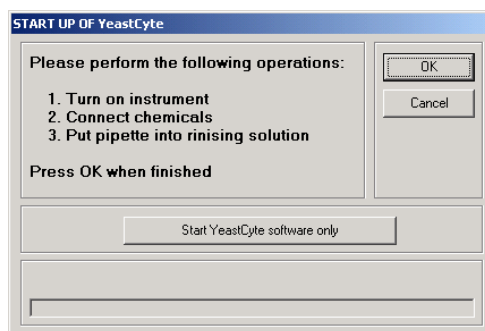

Figure 11 Start Up dialogue
- Follow the instructions on the screen (see Figure 11)